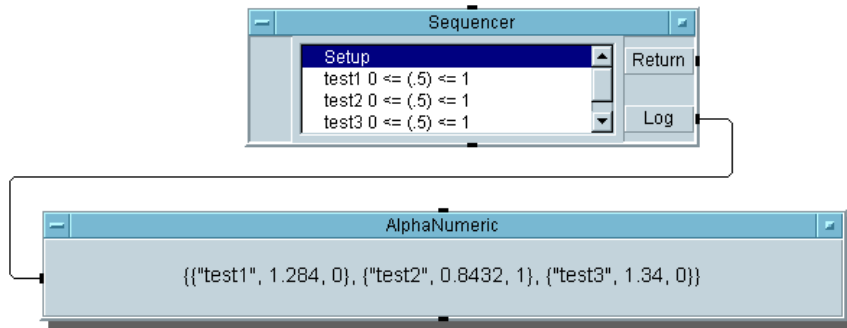

Figure 9-10. Passing data Using a Global Variable
8. Save the program as `seqdat2` and run it. When the pop-up panel appears, select a value and press OK. It should look like Figure 9-10.